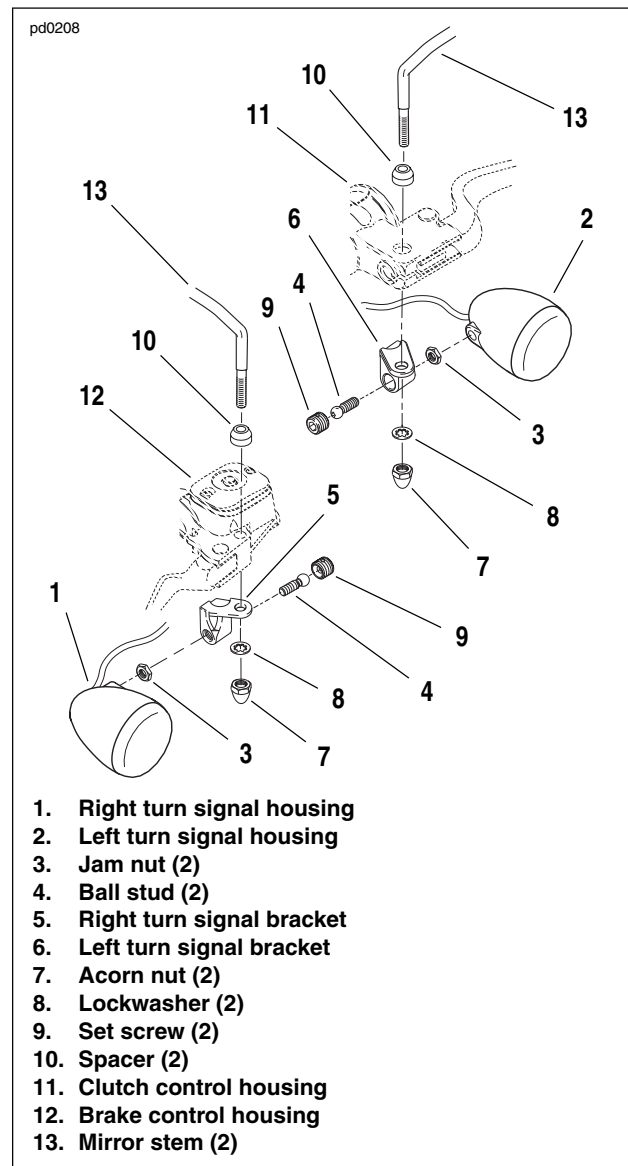

Figure 7-7. Turn Signals
1. See Figure 7-7. Place spacer (10) onto right side mirror stem, slide mirror stem down through hole in front brake master cylinder assembly and right turn signal bracket (5). Install lockwasher (8) and screw on acorn nut (7) finger tight.
- a. Loosen set screws (9) approximately 1/8 turn.